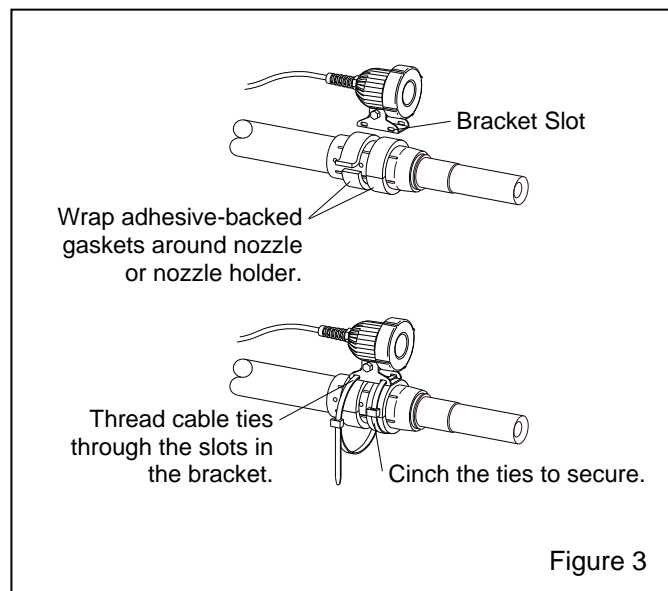

Figure 3
2.2 Assemble Light to Blast Hose Refer to Figure 3
2.2.1 Use cable ties provided or user-supplied worm clamps to attach the light to the blast hose, nozzle holder or nozzle, as shown in Figure 3. When attaching the light to a slick surface, such as a nozzle or nozzle holder, use adhesive-backed gasket to prevent the light from
slipping. To apply cut two lengths of gasket long enough to wrap around the holder; remove the backing and apply the gasket around the holder, spaced so one length of gasket is centered under each slot in the mounting bracket, as shown in Figure 3.
2.2.2 Thread the cable ties through the mounting bracket slots, as shown in Figure 3, and loosely secure enough to barely hold the light in position.